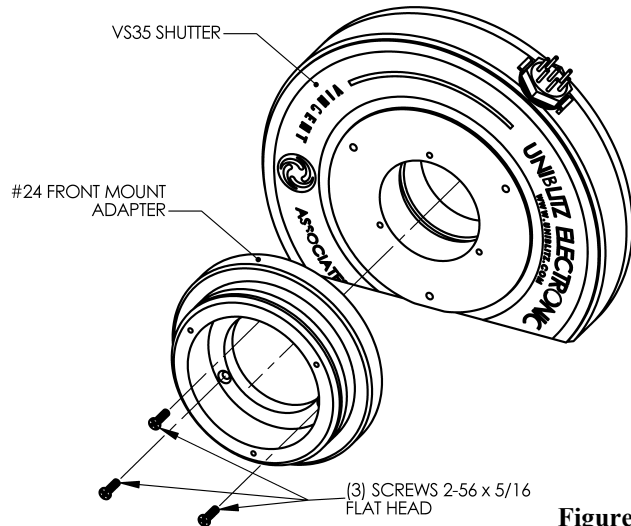

Figure 2
Using (3) flat head screws attach #24 front mount to the front of the shutter housing. (See Figure 2)